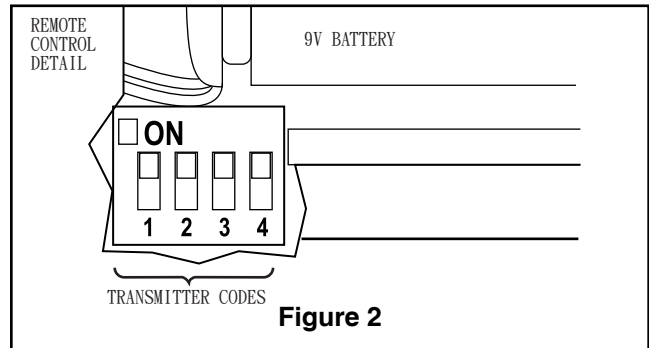

Figure 2
1. To set the transmitter code, remove battery cover by pressing firmly below arrow and sliding cover off. Slide code switches to your choice of up or down position. Factory setting is all up. Do not use this position. With a small screwdriver or ball point pen slide firmly up or down. Replace battery cover on the transmitter (Figure 2).